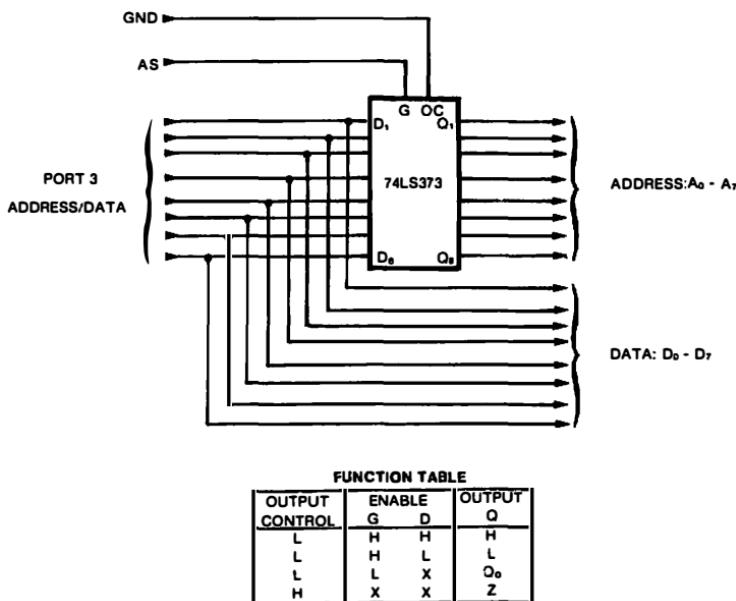
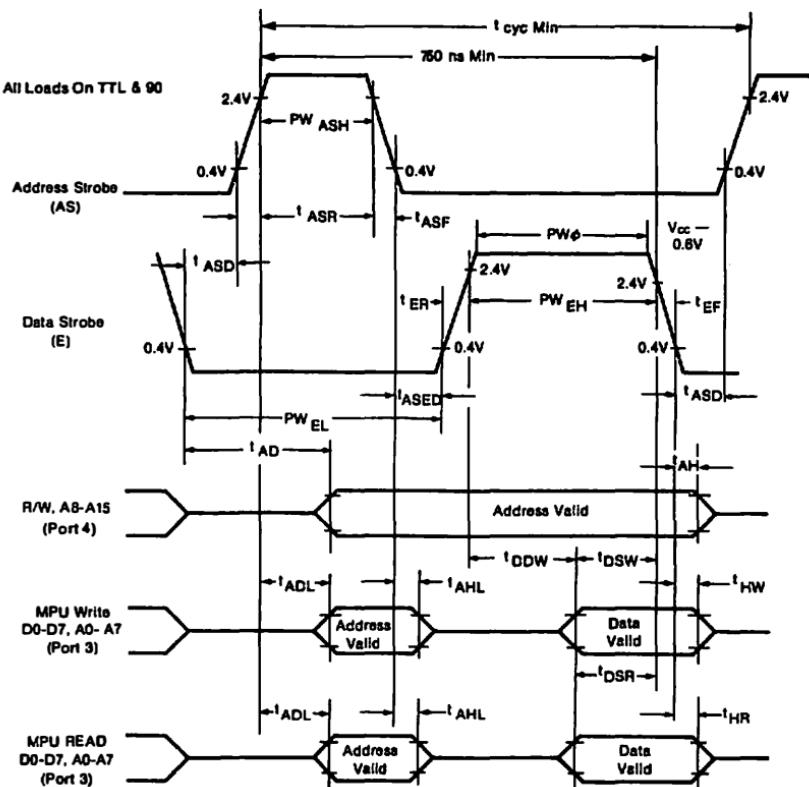

Fig. 4-11. Port 3 address/data latching.
Fig. 4-12. Port 3 multiplexed bus timing.
high-level pulse at this pin indicates that an address is present on port 3. The address strobe will allow you to externally separate the address and data functions of the port. You will use this signal to latch the lower address byte ($A_0 - A_7$) as shown in Fig. 4-11. The address strobe (AS) will signal the latch to acquire and hold the address information. In this way, the address information that is latched may be used by memories and external devices, while the port 3 lines are then used as bidirectional data bus lines.
Data bus functions are active during the E pulse. The signal timing requirements are shown in Fig. 4-12. A 74LS373 transparent octal D-type latch is used to provide address latching in Fig. 4-11. The address strobe (AS) is connected to enable line G, with the 74LS373 output control line (OC) connected to ground. When an address byte is output to port 3 by the 6801, a high-level address strobe (AS) pulse is generated. This enables the 74LS373, which latches the address and transfers it to the external address bus. A particular address byte will remain at the latch output until a new address is output at port 3 by the 6801. When data is present at port 3, the address strobe signal will go low. The 74LS373 does not latch this information, so the data bus information is only present on the external data bus and it does not interfere with the external address bus.